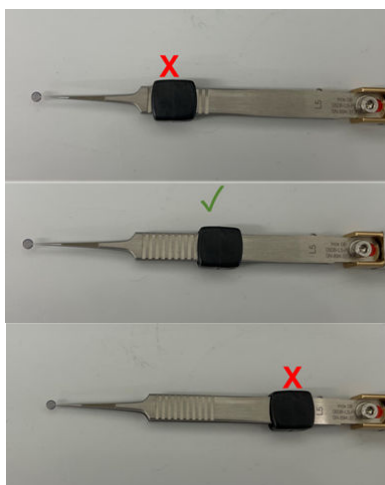

Figure 7 Correct tweezer slider position for EM grid handling (green check).
2. Ensure slider is properly aligned on tweezers (see Figure 7).
Tweezers slider was not correctly positioned.	Use the correct slider position on the tweezers. See Figure 7.